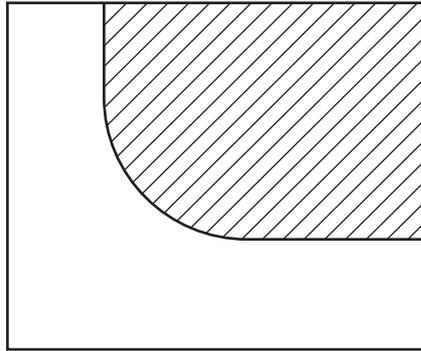

Fig. 9
- (e) Fig. 9 shows the shape of the measuring scale partly marked out on 2 mm thick mm sheet.